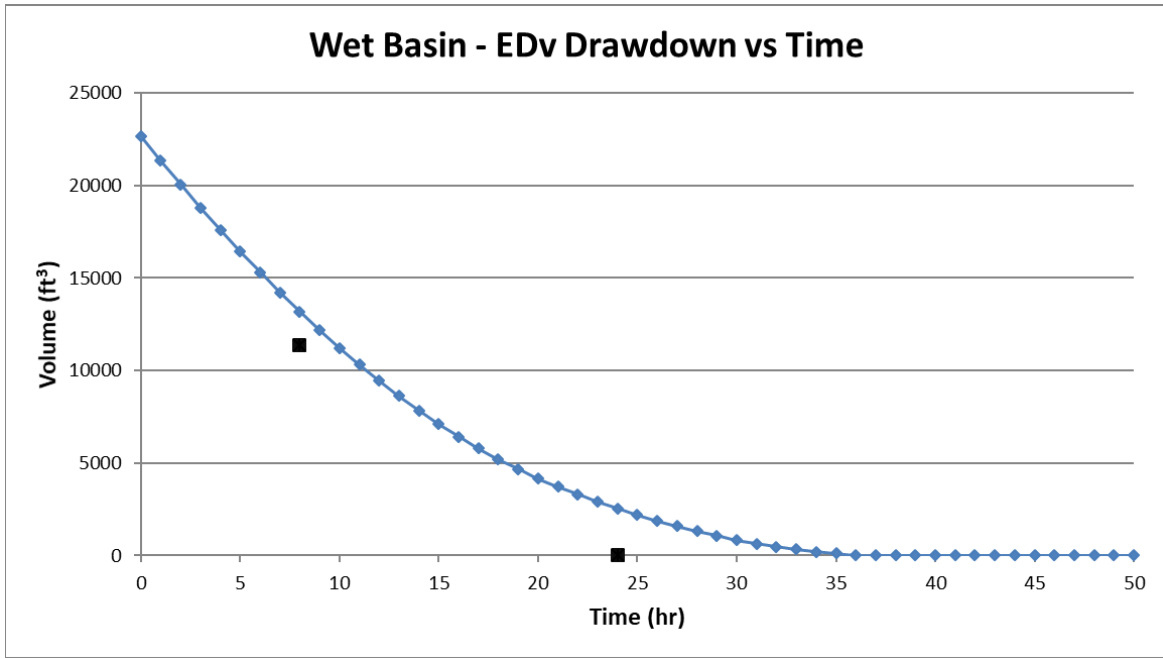

Figure 1 - Spreadsheet designed to show drawdown from brimful WQv in the above example.
Though orifices larger than that calculated by the above method may meet the target drawdown period for the WQv basin, they may not meet the CGP requirement to discharge no more than the first half of the WQv in less than one-third of the drawdown time. To verify drawdown is acceptable, you must either (A) use a spreadsheet [see Figure 1] or (B) route the WQv (pull the plug from a full WQv) through the basin outlet to ensure the actual drawdown curve meets requirements.
To demonstrate compliance with the post-construction sizing requirements when designing extended detention basins, calculations to determine orifice size must be clearly indicated in the Storm Water Pollution Prevention Plan (SWP3). Ohio EPA recommends including stage-storage data or elevation-area-capacity tables indicating the elevation at which the WQv is achieved. This data must match the elevations indicated on the profile view of the outlet structure. Ohio EPA recommends including a graph (see Figure 1) that shows the post-construction BMP achieves the desired WQv release rate.